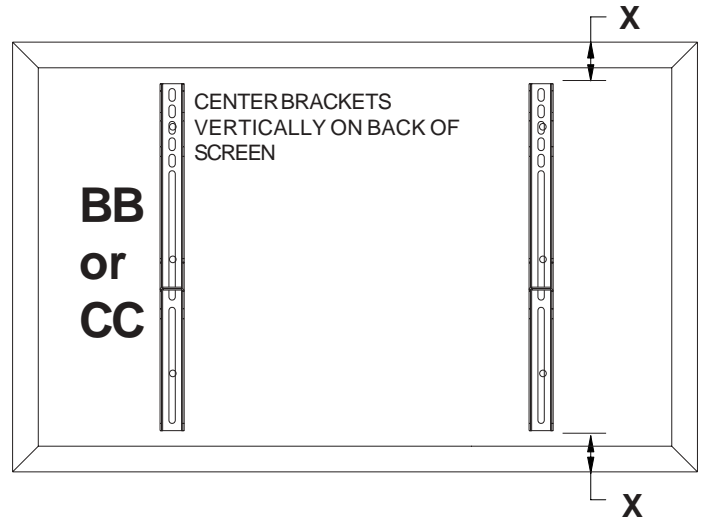
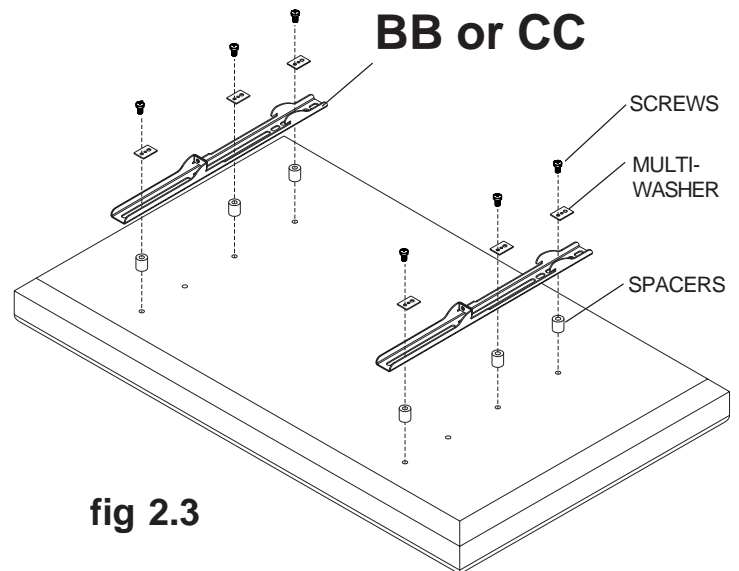

fig 2.1
fig 2.3
- 2 To prevent scratching the screen, set a cloth on a flat, level surface that will support the weight of the screen. Place screen face side down. If screen has knobs on the back, remove them to allow the adapter brackets to be attached. Place adapter brackets (**BB or CC**) on back of screen, align to holes, and center on back of screen as shown in figure 2.1. Attach the adapter brackets to the back of the screen using the appropriate combination of screws, multi-washers, and spacers as shown in figure 2.3.